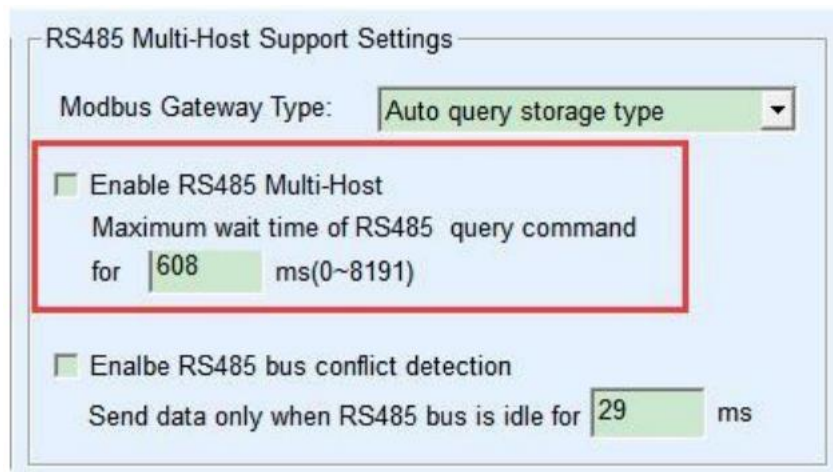
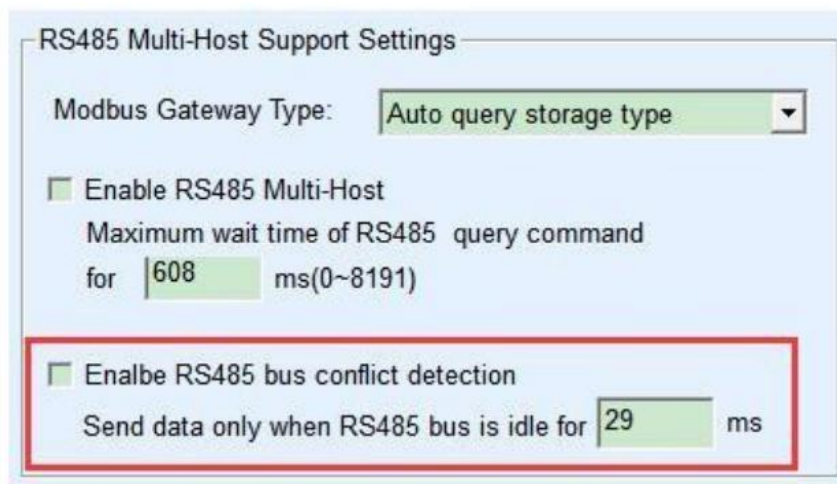

Figure 37 RS485 multi-host support
Figure 38 RS485 anti-collision idle time
1. Figure 38 shows the "RS485 bus anti-collision time". Generally, it can be set to twice the "Packet Interval" in the lower right corner of the parameter configuration interface, but the minimum should not be less than 20.
2. Figure 37 shows the "RS485 command response timeout", which is generally determined according to the length of the back and forth response command. If the sending command is N bytes and the response is M bytes, the recommended value is: "Packet interval" $\times (N+M+5)+100$.
At this time, it should be noted that it is necessary to remove the two check marks shown in Figure 38 as "RS485 bus anti-collision time" and Figure 37 as "RS485 command response timeout time". Otherwise, the above forwarding function cannot be realized. Another application method is: Although the serial server is connected to multiple network port devices as a Client, the RTU device is not the master station, and the network port device still sends it first, and the RTU device responds (as a slave station). At this time, the "RS485 bus anti-collision time" and "RS485 command response timeout time" still need to be checked, so that multiple hosts can access one RTU device at the same time.